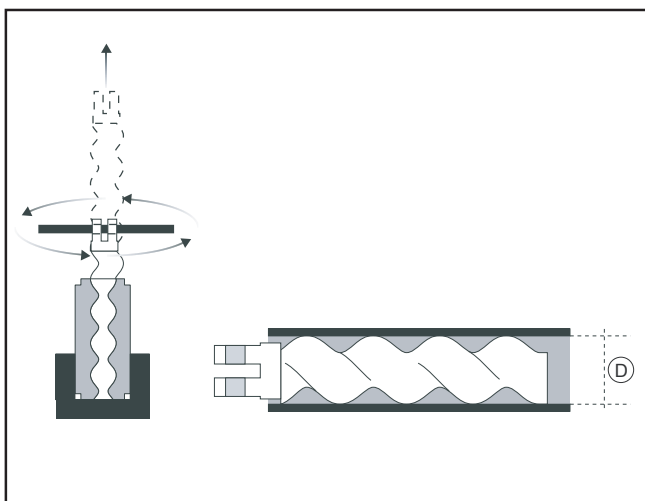

FIG.35
- Grip the pump and extract the screw (FIG.35).